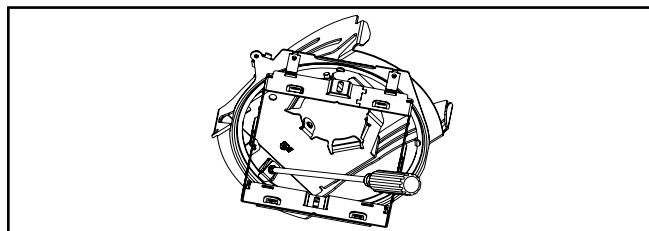

Figure 6.
**Note:** For 'Through Aperture' installation the stationary disk must be separated from the adjustment mechanism, passed through the aperture and installed as described above. To separate stationary disk loosen the clamping screw and rotating clamp to free disk.(Figure 6.)